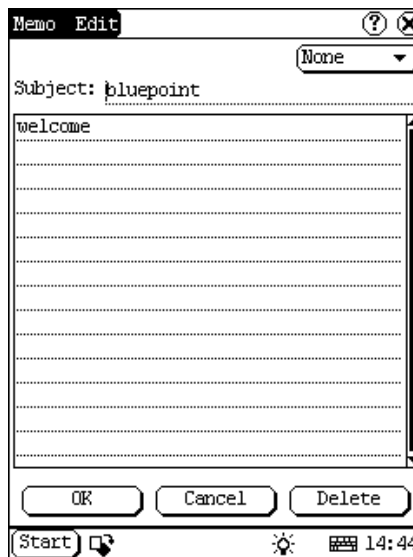

Figure 5-16
- 2) Then you can edit the contents of the memo in the opened Memo Edit interface. See Figure 5-16.